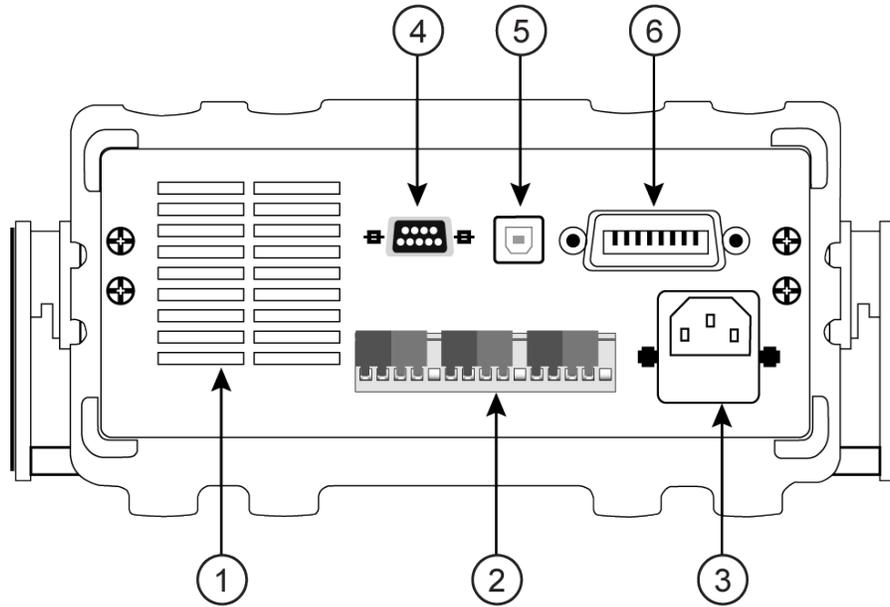

Figure 2 - Rear Panel
- Locate the fuse box next to the AC input connector in the rear panel (see Figure 2)